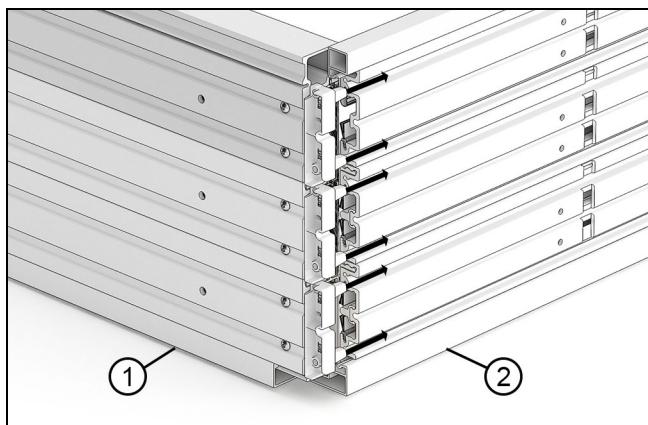

Figure 49
7. Slide the lower jamb corner keys into the sill. See Figure 49.